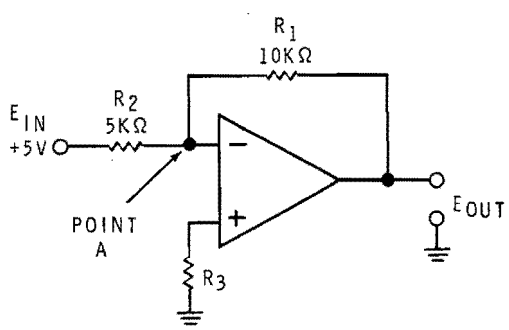

Figure 3-88
11. Refer to Figure 3-88. What is the voltage at point A?